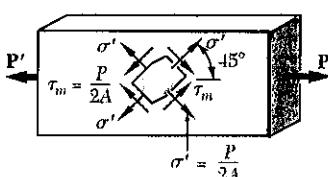

Fig 1.40 (b)
2.74 For a member under axial loading, express the normal strain  $\epsilon'$  in a direction forming an angle of  $45^\circ$  with the axis of the load in terms of the axial strain  $\epsilon_x$  by (a) comparing the hypotenuses of the triangles shown in Fig. 2.54, which represent respectively an element before and after deformation, (b) using the values of the corresponding stresses  $\sigma'$  and  $\sigma_x$  shown in Fig. 1.40, and the generalized Hooke's law.